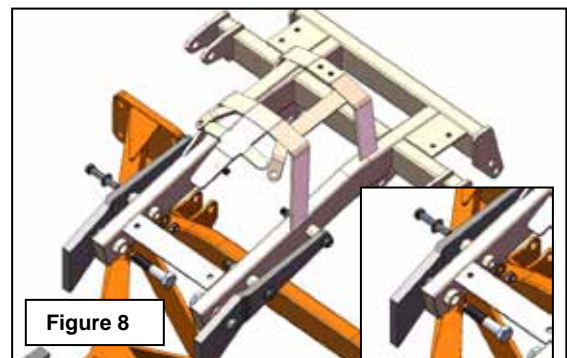

Figure 8
- a. Install seat / shock mount to frame as shown using supplied hardware. Figure 8